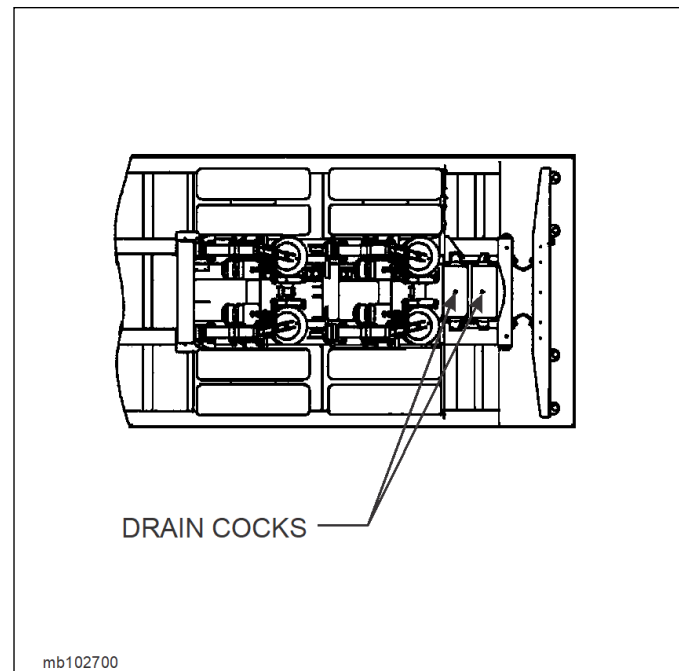

Figure 4-8: Drain Cock Locations
4. Drain air reservoir daily. A drain cock on the bottom of each air reservoir vents the tank to drain collected water and oil. If held open, air pressure in the tanks is relieved, causing the emergency or parking brakes to be applied (**See Figure 4-8.**)
2. Drain the semitrailer air system of all air and moisture (See Figure 4-8.)